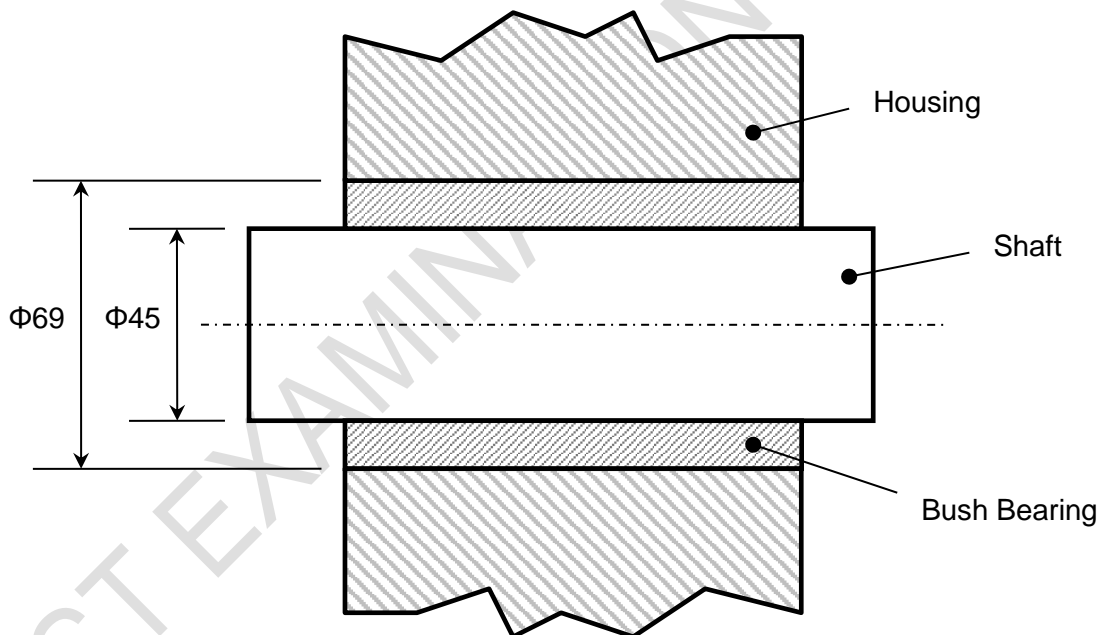

Figure 4(a)
4. Drawn below in figure 4(a) is a cross-section through a Shaft, Bush Bearing and Housing arrangement. The Shaft is a 'close running' fit in the Bush Bearing and the Bush Bearing is a 'press fit' in the housing.